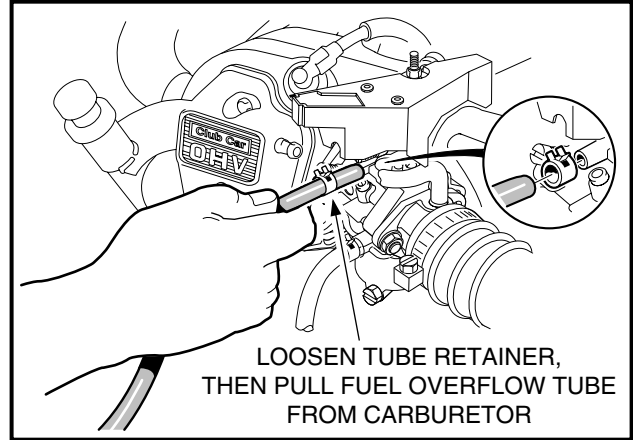

FIGURE 10-10
- 2.1. Use pliers to expand the hose clamp, and then disconnect the carburetor overflow tube from the carburetor (**Figure 10-10**).